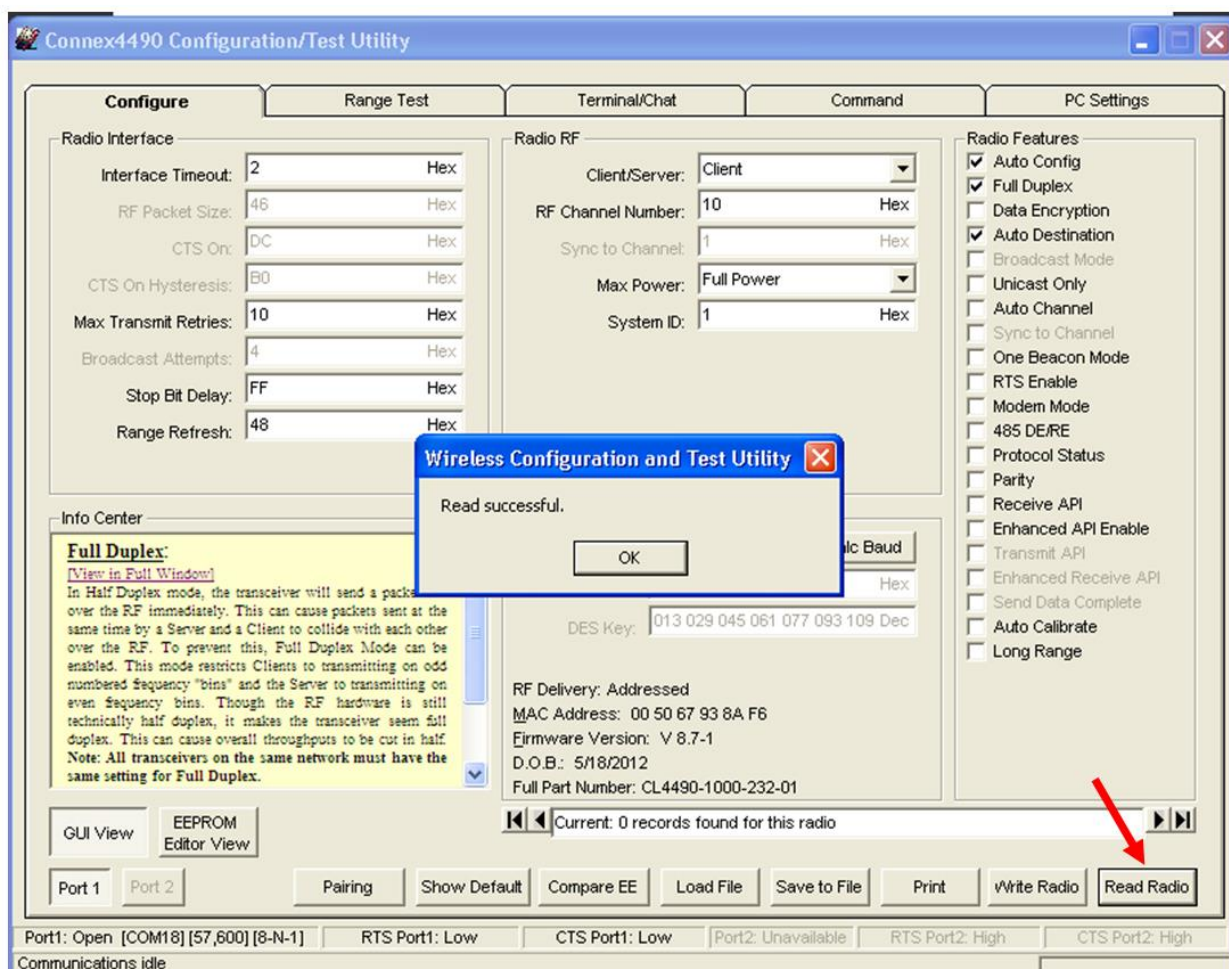

Figure 10: Configure tab - Read Successful
15. Go to the Configure tab and click the **Read Radio** button at the bottom right of the screen. A message stating "Read Successful" should appear after a successful read (Figure 10).